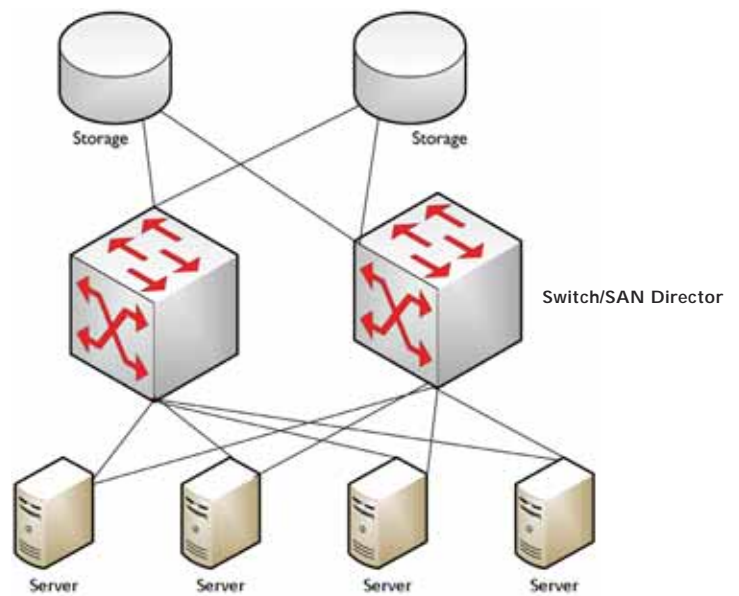

Figure 3: Meshed SAN Architecture
Like DAS, a SAN is connected behind the servers. SANs provide block-level access to shared data storage. Block level access refers to the specific blocks of data on a storage device as opposed to file level access. One file will contain several blocks. SANs provide high availability and robust business continuity for critical data environments. SANs are typically switched fabric architectures using Fibre Channel (FC) for connectivity. As shown in Figure 3 the term switched fabric refers to each storage unit being connected to each server via multiple SAN switches also called SAN directors which provide redundancy within the paths to the storage units. This provides additional paths for communications and eliminates one central switch as a single point of failure.